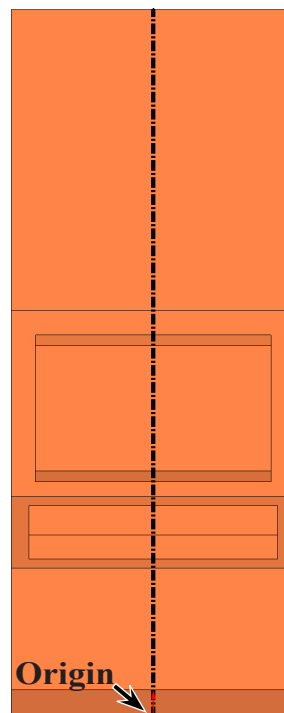

Fig. 22
Step 4. Sketch vertical centerline up from **Origin** , **Fig. 22.**